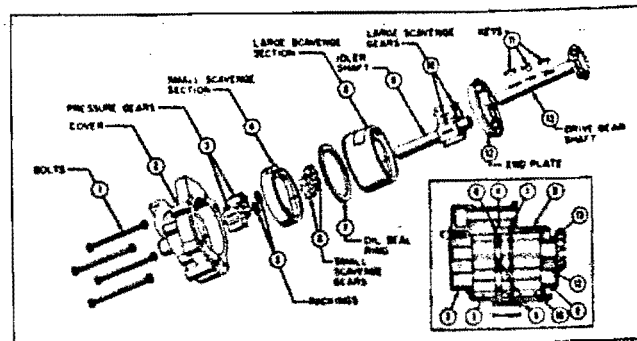

Figure 7-83. Oil Pump
**7-98. INSPECTION OF OIL PUMP.** [Figure 7-83] Inspect the teeth for pitting and uneven contact. The gears should turn freely and show no indication of interference with pump body. Oil passages must be clean. Inspect the body for cracks, scoring, and condition of